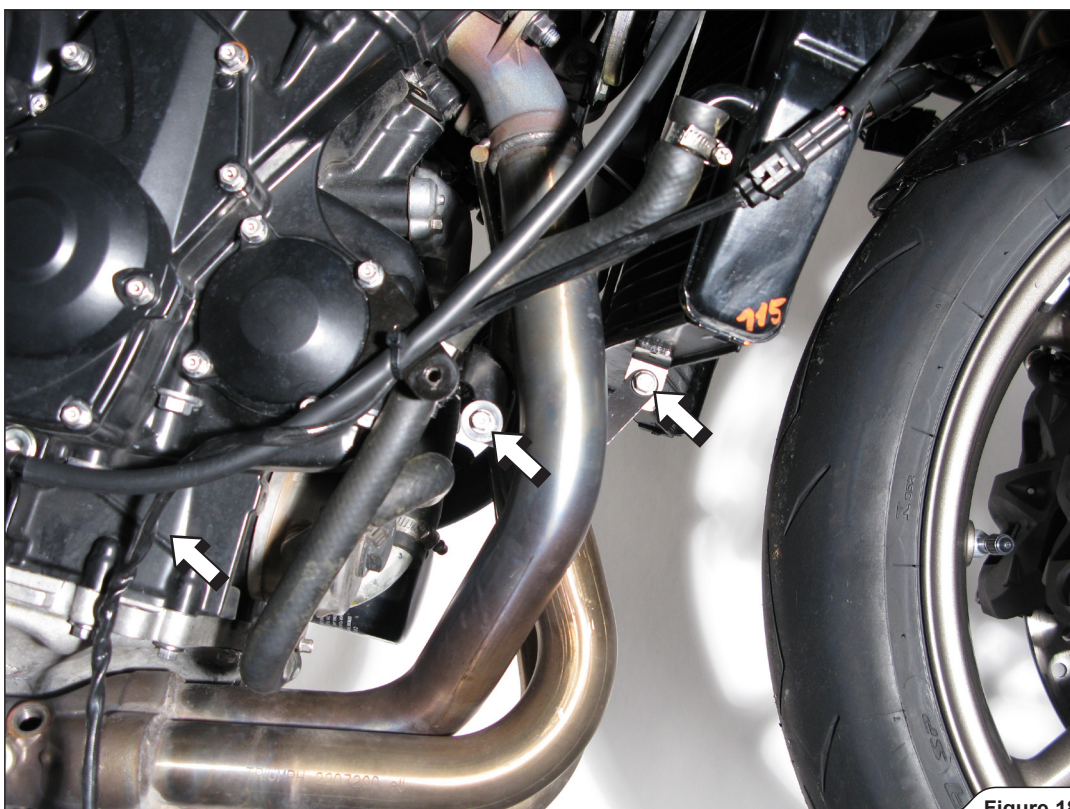

Figure 18
16. **For Racing exhaust system only:** unscrew the market bolts and remove the first part of the radiator's bracket (Figure 18).